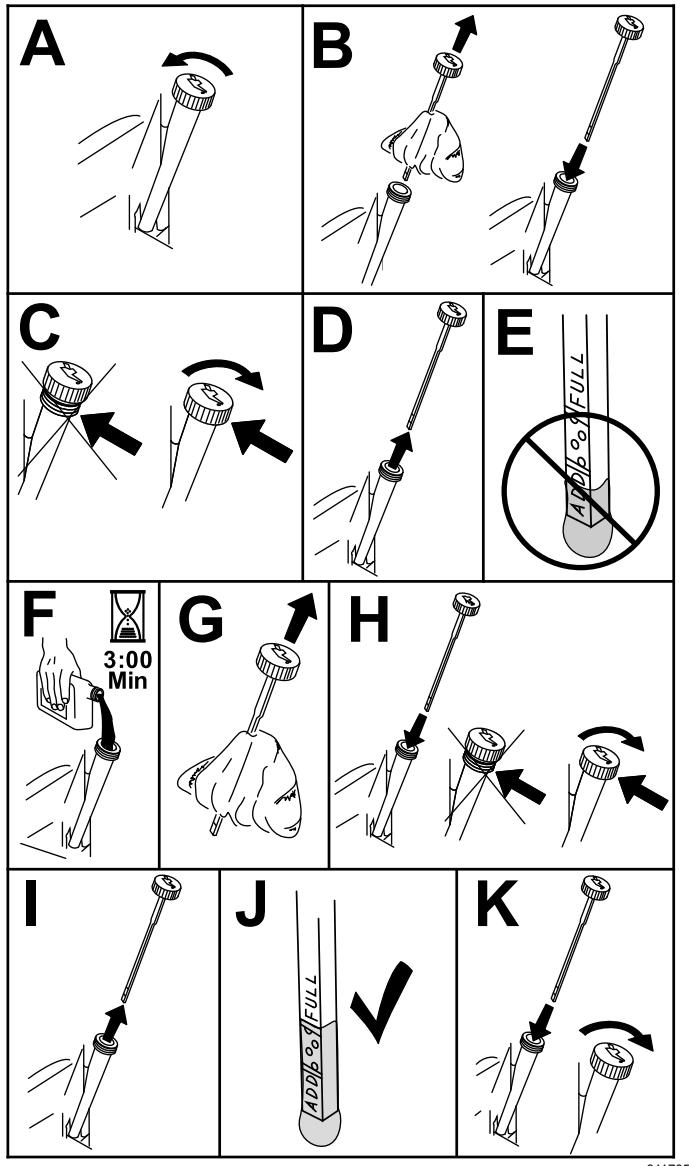

Figure 32
3. Check the engine-oil level as shown in (Figure 32).